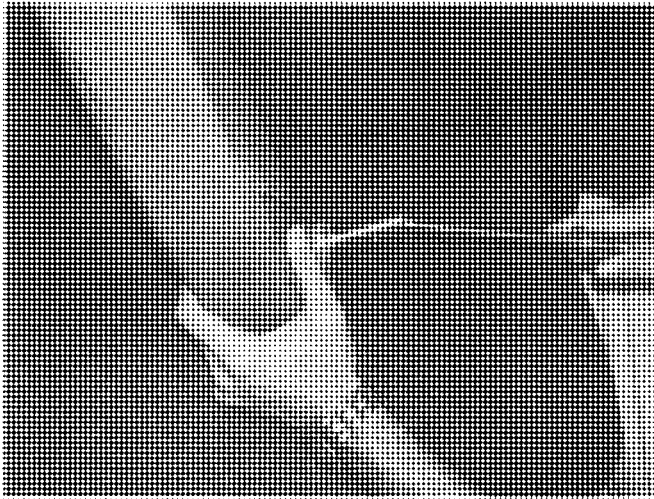

FIGURE 3.
- b. Locate the button on the armrest by inserting the screwdriver under the seat cover and foam, and into the middle of the armrest tube. See FIGURE 3. (Arm rest is shown already removed in FIGURE 3.)